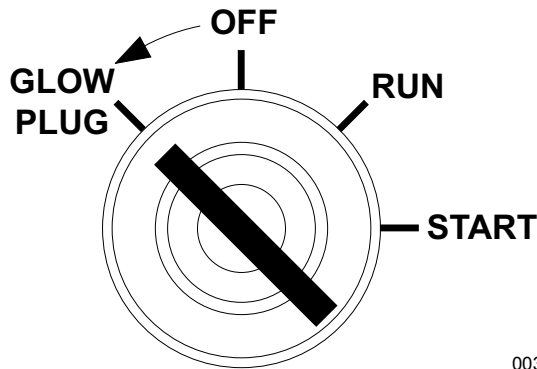

Figure 3-5. Activate Glow Plug
- See **Figure 3-5**. Turn the key on the Engine Start switch to the right GLOW PLUG position and hold the key in place for five seconds or until the glow plug indicator turns red.